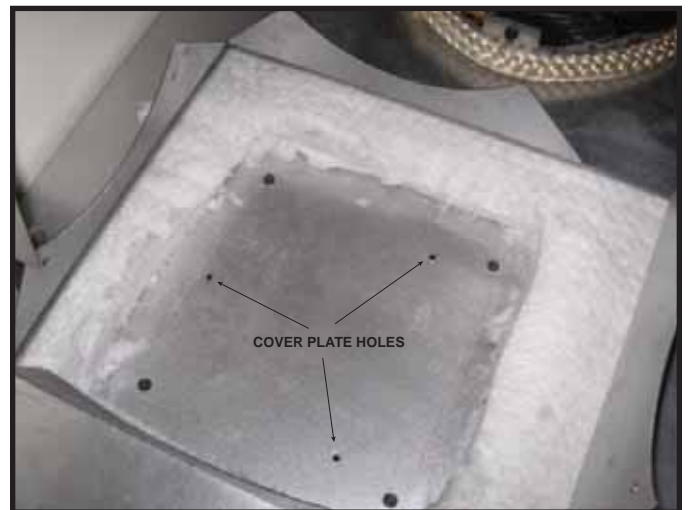

Figure 7.3.
3. Discard the Heat-Zone® cover plate and insulation piece that was cut out. See Figure 7.3. With a self-tapping screw or drill bit, drill out the three holes on the cover plate of the appliance. This will make it easier to mount the Heat-Zone® Gas collar.